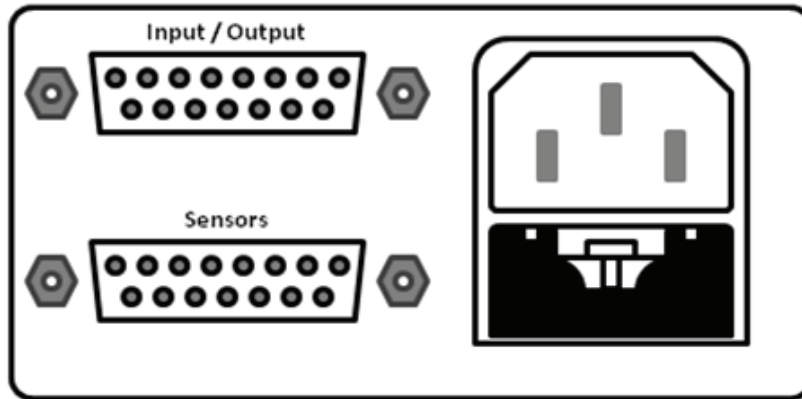

Figure 2 Terranova® 926A Back Panel
The Terranova® 926A has a female 15-pin D-sub connection located on the back of the control unit labeled SENSOR(S) to connect the pressure gauge cable (See Figure 2). A dual cable is required to simultaneously connect both pressure gauges. User will require the Duniway gauge cable 275-CBL-2-10 to connect the Granville-Phillips 275 Convector® gauges and equivalent pressure gauges to the control unit. Similarly, the user will require the Duniway gauge cable CEP-CBL-2-10 to connect the MKS / HPS Series 317 gauges or equivalent pressure gauges to the control unit.